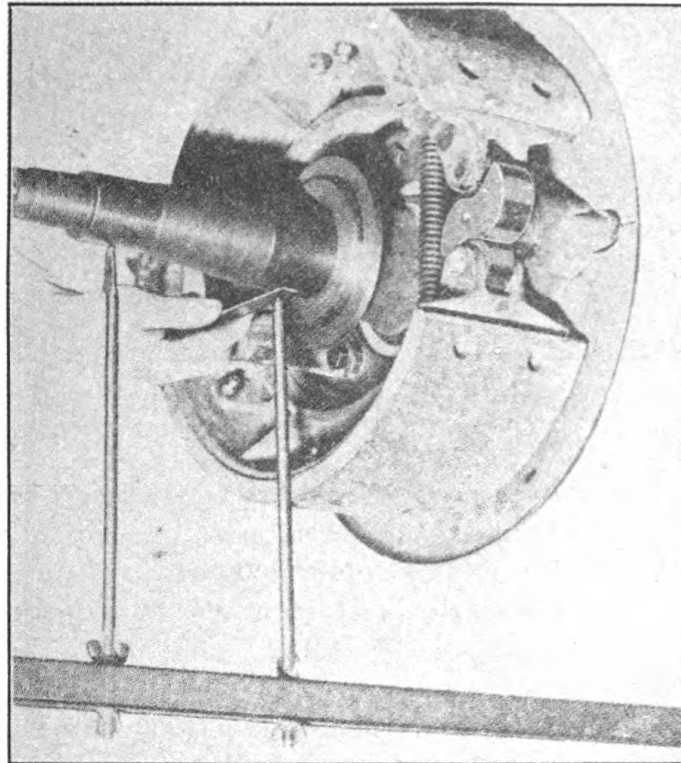

FIGURE 9. CHECKING AXLE FOR CAMBER.
4. CHECKING FOR CAMBER (Figure 9).—*a.* Set the points of the axle gauge in exactly the same position on the axle and in the same manner as outlined in points *a.* and *b.* of Checking for Bend.